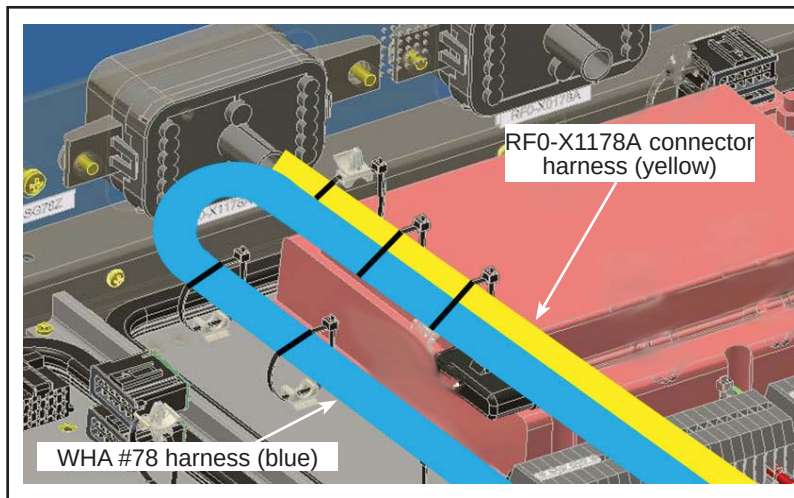

Figure 11 - Proper Harness Routing when RF0 Panel Door is Closed
- 1.27. Gently close the RF0 panel door. Make sure that no wires are in contact with the DC-DC converter. See Figure 11.